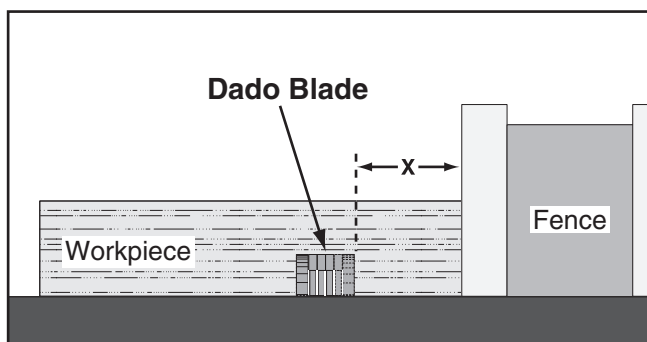

Figure 58. Example of a dado cut with a dado blade.
Commonly used in furniture joinery, a dado is a straight channel cut in the face of the workpiece. Dadoes can be cut using either a dedicated dado blade or a standard saw blade. **Figure 58** shows a cutaway view of a dado cut being made with a dado blade.
2. Adjust the distance between the fence and the inside edge of the blade, as shown in **Figure 58**, to dado the length of a workpiece.